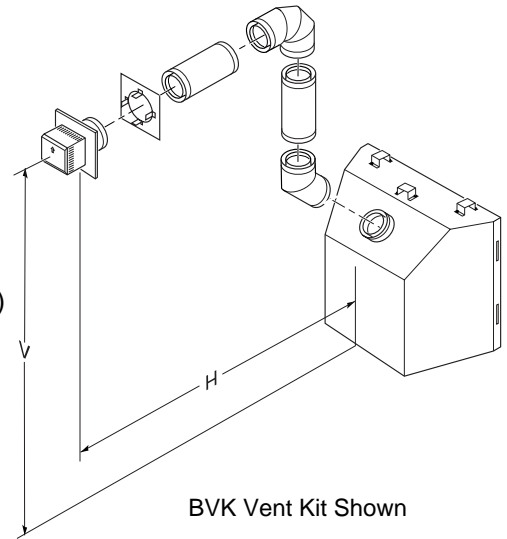

Figure 18 - Horizontal Termination Configuration for Rigid Venting Using One 90° Elbow
See information in Figure 18 for Vertical (V) and Horizontal (H) maximums and minimums. The same amounts apply for flexible venting.